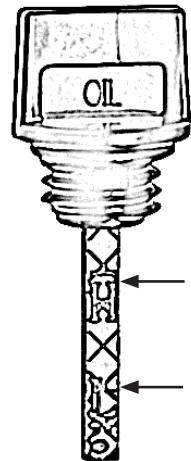

Figure 7
- Read the oil level, see also Fig. 7.
**There must be an oil film between the upper and lower markings. If there is no oil film, the oil level is too low, Fig. 7. Top up with more oil. H-High stands for maximum. L-Low stands for minimum.**